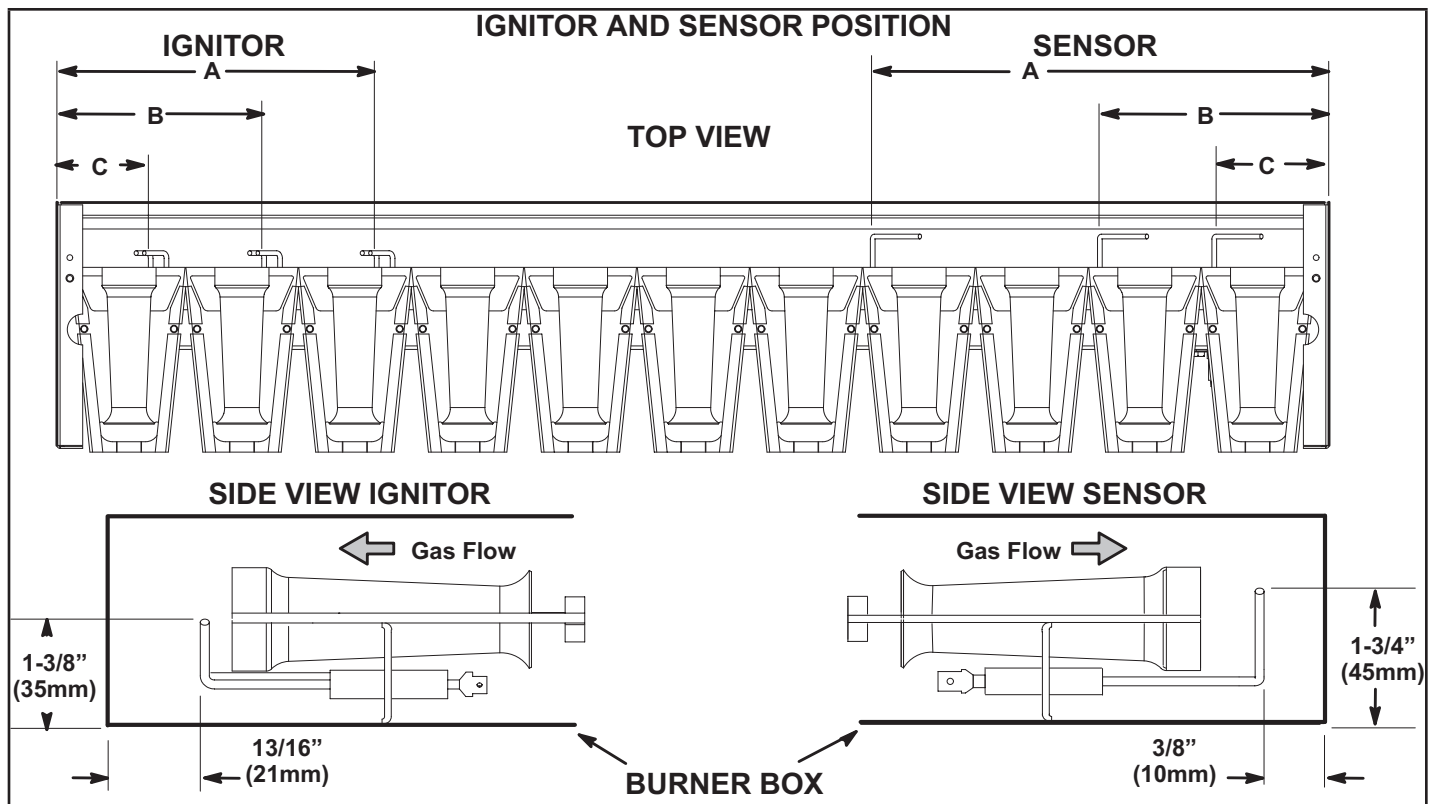

FIGURE 40
- 5 - Check the alignment of the ignitor and the sensor as shown in FIGURE 40 and TABLE 21.